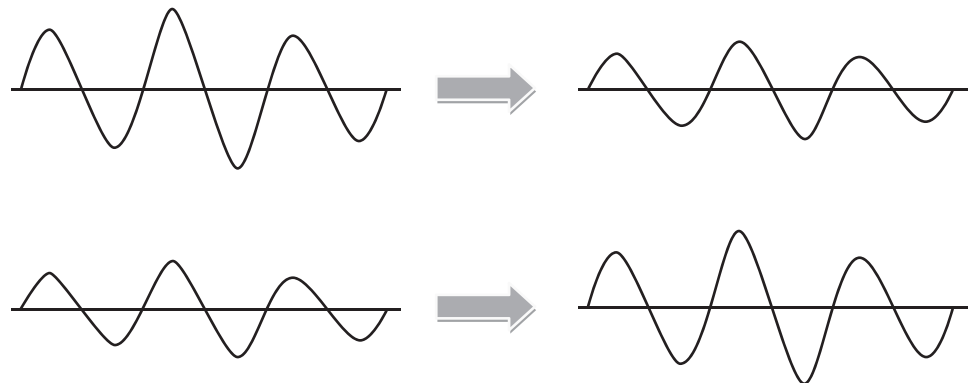

FIGURE 3-10 Amplification. All echo amplitudes increased or decreased equally, regardless of depth.
- **Amplification**, or **overall gain**, increases or decreases the strength of all of the returning echoes equally (Figure 3-10).